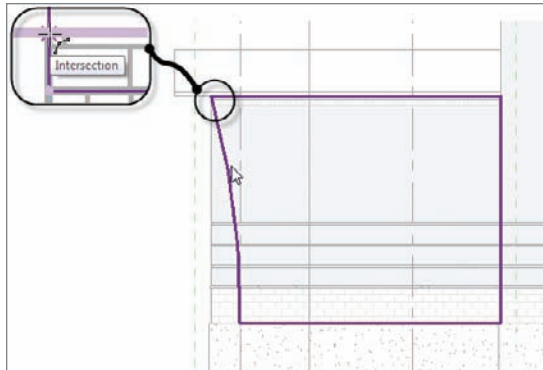

FIGURE 16.43 Adding the 3D mass
6. Draw an arc, as shown in Figure 16.43.
7. On the Draw panel, click the Line button, and draw three lines forming a box, as shown in Figure 16.43.